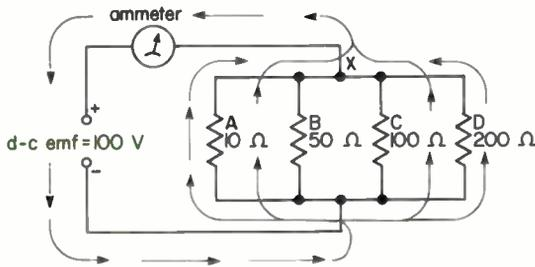

Fig. 21
3. In Fig. 21, the same applied voltage—that is, 100 V—appears across each of the four resistors. Using Ohm's law, the current, in amperes, through branch *A* is _____; the current through branch *B* is _____; the current through branch *C* is _____; and the current through branch *D* is _____. Now, at point *X*, these four currents combine and flow back to the voltage source. Therefore, the total current as read by the ammeter is _____.
4. Suppose that in the circuit in Fig. 21 the ammeter reading drops from 13.5 A to 11.5 A. Where would you look for trouble, and what would you expect to find?